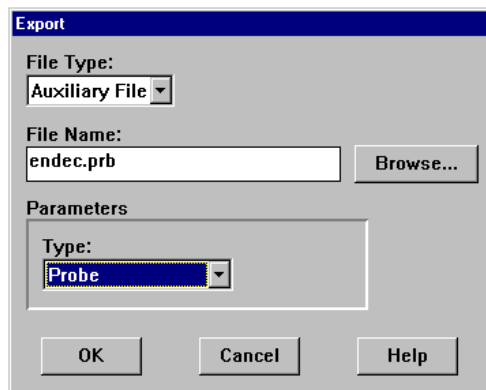

Figure 2-3. Designer File Export Dialog Box
3. **Open the Export dialog box.** Select Export from the File menu to view the Export dialog box (Figure 2-3).